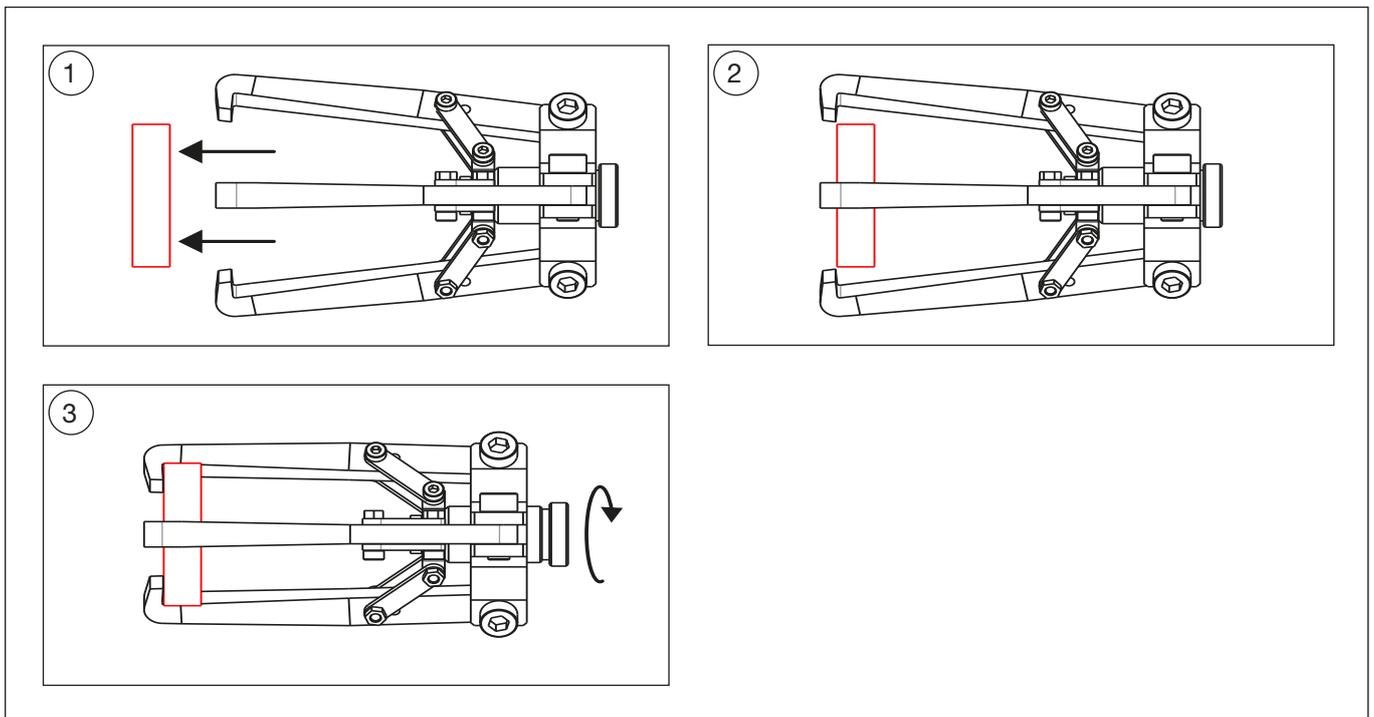

Figure 6: Puller Operation Steps. Extracting an External Part.
1. Place the puller on the workpiece. Refer to Figure 6, views 1 through 3 during the following steps.